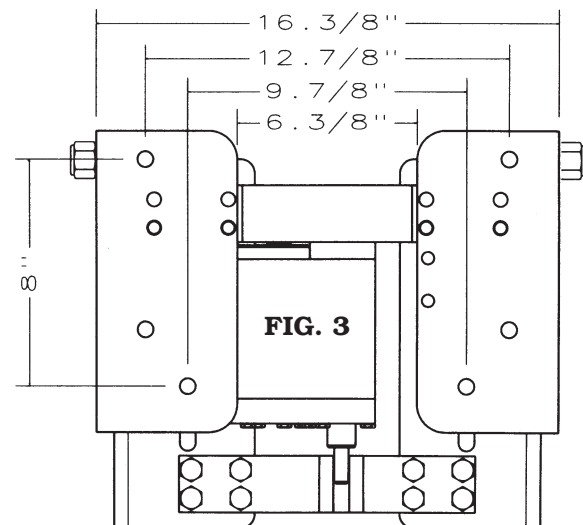

**FIG. 1**
Step 4: Swing motor away from boat taking care not to damage any wires or cables. (Fig. 1 )